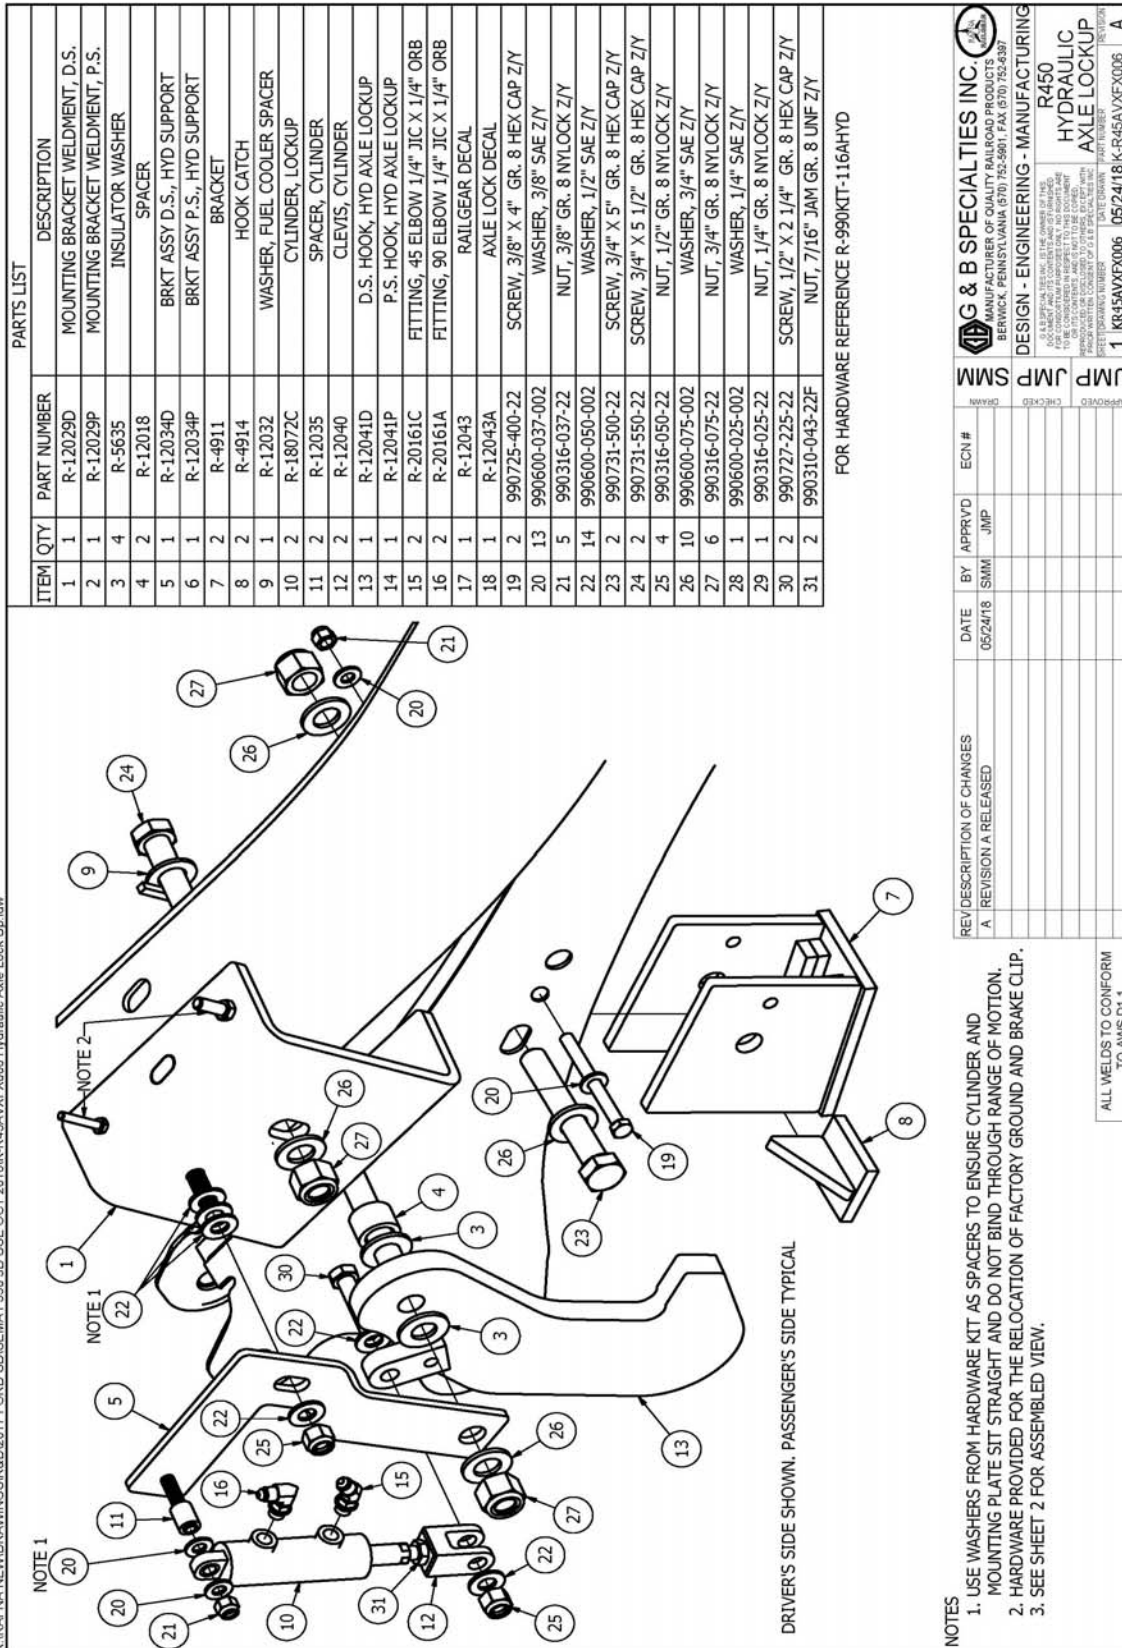

Figure 1
3. Find the slotted hole on top of the frame. Take bracket R-12029D (Driver's Side) and align the locating slug on the bracket with the slot in the frame. When done correctly, slug should drop into the slot on the frame and the bracket sit against the top and outer surfaces of the frame. See (Fig. 1).
4. With the bracket on the frame, center punch the slot on the bracket. Remove bracket and drill a 49/64" hole. Hole should line up with existing square hole where we removed the clip from earlier. Check with supplied 3/4" bolt to ensure bolt sits parallel and is not angled. Hole may need to be reamed to ensure this. The hole on the outside of the frame can also be obtained by drilling the square hole on the inside of the frame through to the outside. The bracket is slotted for this reason, just ensure bolt sits straight and not on an angle. Once hole is in place and bolt sits parallel, re-install fuel cooler leaving out the clip we removed. Install bracket to frame, using R-12032 and 3/4" hardware as show in Fig. 1. See Fig. 7 for proper install reference. (Passenger side will need the hole drilled through to the inside of the frame. There are no holes present on the passenger side.)
5. On the radius arm you will see a slotted hole with a hole next to it. Take R-4911 and place it on the radius arm with the larger hole in the bracket aligned with the slot, positioned closest to the hole side of the slot. See (Fig.5) Place 3/4" bolt that was supplied through the bracket and radius arm to help hold the bracket, and with the bracket against the bottom of the radius arm, mark the center of the small hole of the bracket on frame. You may also mark the center of the hole on the inside of the frame. Drill a 13/32" hole through the radius arm, or on the inside and outside where marked. With hole drilled, install bracket using the 3/4" and 3/8" hardware supplied in kit. See (Fig.1) for reference. Ensure not to over-tighten bolts and deform the radius arm.
6. Assemble the hook, R-12041D, and bracket, R-12034D, onto the all thread and stud as shown in Fig. 1. If lateral adjustment is required supplied spacer can be trimmed down, or washers can be added into assembly to maintain proper clearance with frame, suspension arm, and hook. Nylock nut should be tightened enough to secure hook, but not hinder it from swinging. (R-12041P and R-12034P will be used on Passenger's Side)